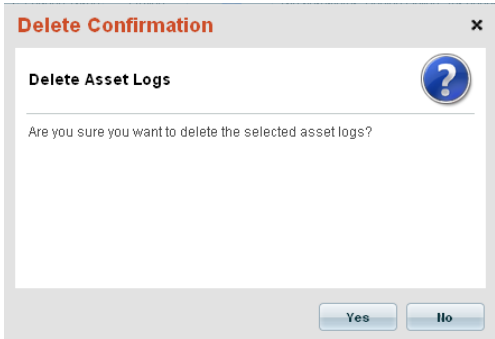

FIG. 270 Delete Confirmation - Asset Logs
5. The program will prompt you to verify this action before the Logs are deleted (FIG. 270):